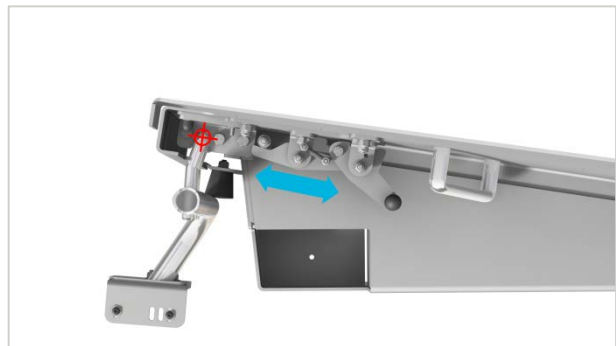

Figure 3 – Proper engagement of latch striker bar.
2. With the latch assembly loose, move the base plate in/out as shown in **Figure 2**. Position the striker bar in the center of the latch jaw, indicated by the **red** target as shown in **Figure 3**. Test the striker bar position by latching and unlatching the door to confirm adjustment location.